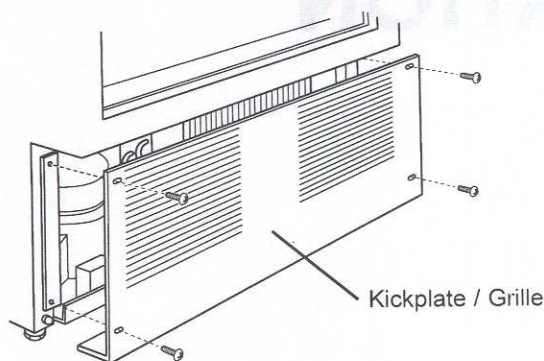

Figure 2-1. Kickplate/Grille Removal
**NOTE:** The kickplate/grille must be removed before leveling. (See Figure 2-1) If the unit has already been anchored to the cabinets, the side molding strips must be removed and the anchor screws must be extracted from the unit to cabinet brackets before leveling. (See Figure 2-2) These components must be reinstalled after leveling.